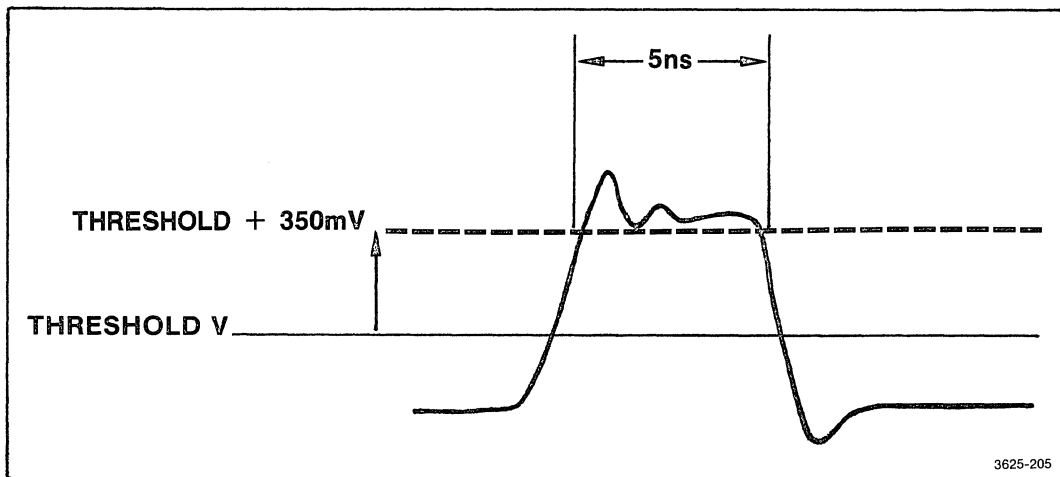

Figure 5-78. Glitch width and height restrictions.
3. Set the pulse generator for a 20 ns cycle time with a 5 ns high pulse. Set the amplitude of the pulse to 700 mV. Center the signal around ground. The signal that the 91A08 will be capturing should be similar to Figure 5-78.